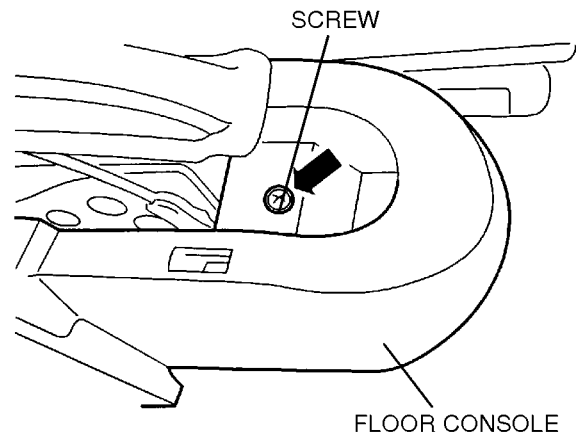

FIGURE 7
- F. Remove the rear retaining screw (refer to Figure 7).